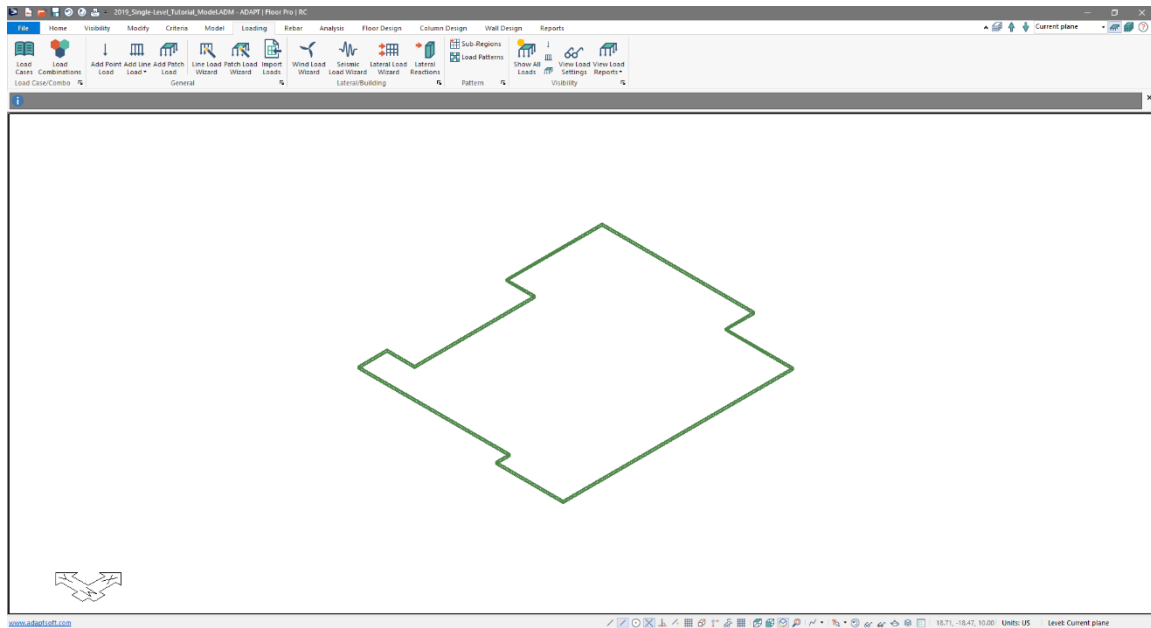

Figure 4-10
- Click on the *OK* button to close the *Select/Set View Items* window. Click on white space to refresh the view. The user should now see only the slab in the main graphical user interface as shown in **FIGURE 4-10**.